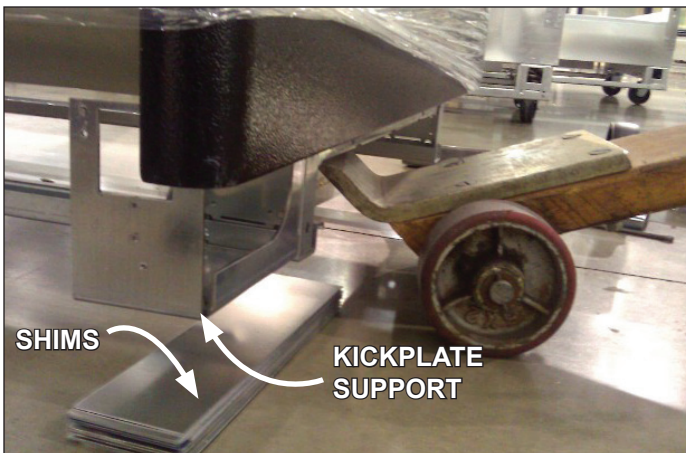

Fig. 1 Kickplate support
4. Locate basehorse positions along the chalk line. Spot properly leveled shim packs at each basehorse location. For narrow cases - ONRM, ONRB & ONRBH place shim packs under both the basehorses and kickplate supports (Fig. 1).